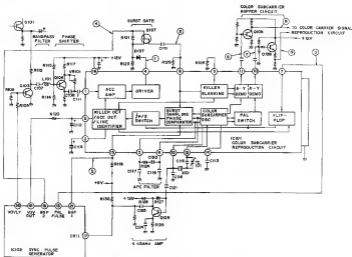

Fig. 13-48 Color Subcarrier reproduction circuit
• Bandpass filter (see Fig. 13-48)
• Phase shifter (see Fig. 13-48)
• Color subcarrier reproduction circuit (see Fig. 13-48)